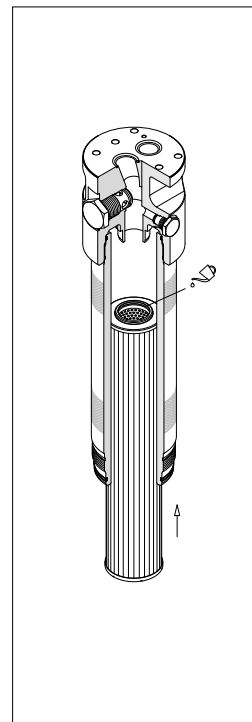

fig. 29
- (Fig. 29) Lubricate with the operating fluid the filter element O-ring, then fit the filter element on the tap.